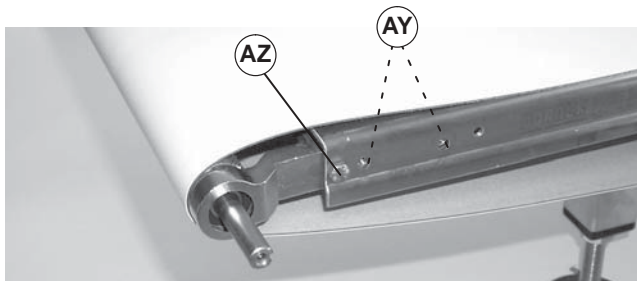
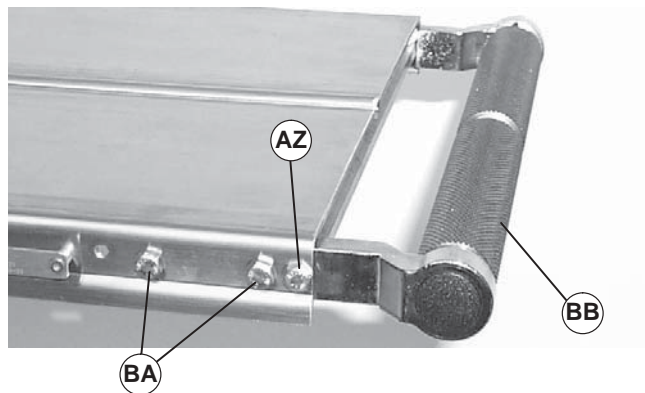
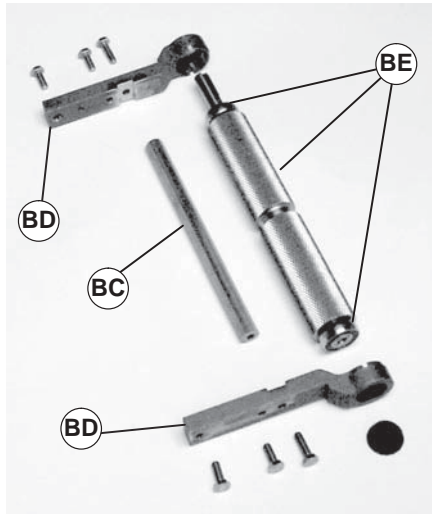

Figure 28
Figure 29
Figure 30
Two screws (Figure 28, item AY) were removed in step 1.
Cross support post (Figure 30, item BC) will not be secure and may drop when screws (Figure 28, item AZ) and (Figure 29, item AZ) are removed.
2. Remove screw (Figure 28, item AZ) and (Figure 29, item AZ) from each side of conveyor.
For a conveyor with a Heavy Load Bottom or Top Gearmotor Mounting Package, the two screws (Figure 29, item BA) were removed in step 1.
Drive spindle assembly (Figure 29, item BB) will not be secure and may drop when screws (Figure 28, item AZ and AY) and (Figure 29, item AZ and BA) are removed.
3. Remove two screws (Figure 29, item BA) from side of conveyor opposite drive shaft.
5. Remove cross support post (Figure 30, item BC).
6. Remove two head plates (BD).
7. Remove drive pulley and bearing assembly (BE).